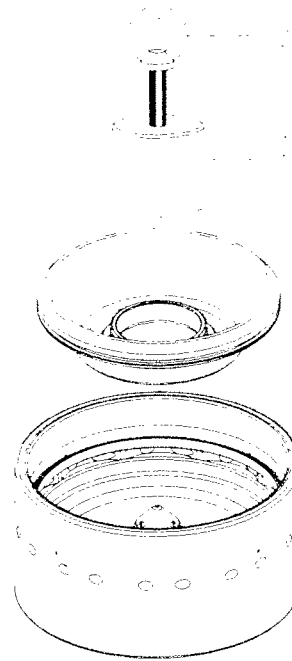

Figure 6.6
6) By the spanner (09.120.0), insert the **moving ram** (Fig. 6.6). Proceed as explained below.
- Fasten spanner body (1) on the moving ram.
- Slightly screw threaded rod (2) until the threaded part length outside the spanner body is  $4 \div 5$  mm.
- Slightly unscrew the threaded rod until the ram is completely placed on his seat. Could be necessary give some plastic hammer blows on the upper edge of the threaded rod (2) and/or make swinging the ram acting on the rod.